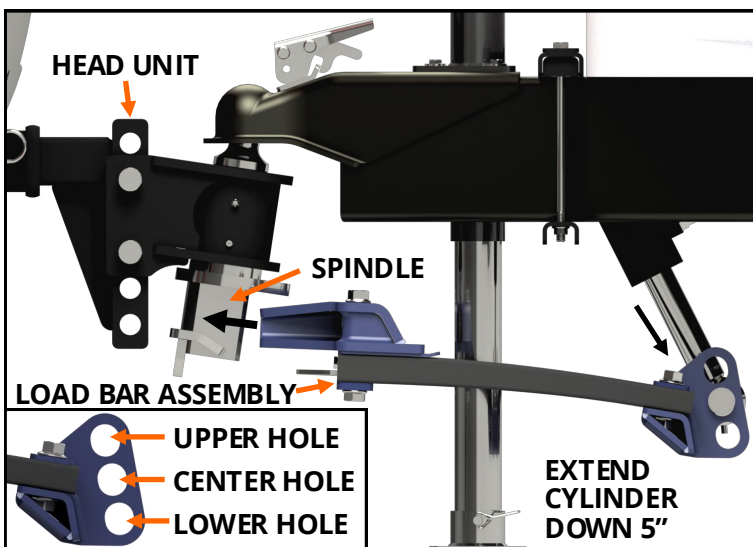

FIGURE G2: View of the driver side of the hitch.
3. **Attach the load bar assembly to the spindle.** Fully open the needle valve on the hydraulic pump. Push down on the lower cylinder mount to extend the hydraulic cylinder until it is fully extended with about 5" of chrome rod showing. Lift the load bar assembly and slide it into the bottom of the spindle of the head unit until the latch pin of the fork engages with the spindle, see **Figure G2**. If the fork does not slide into the spindle far enough to engage the latch pin, then use the upper hole in the lower cylinder mount, see **Figure G2**.